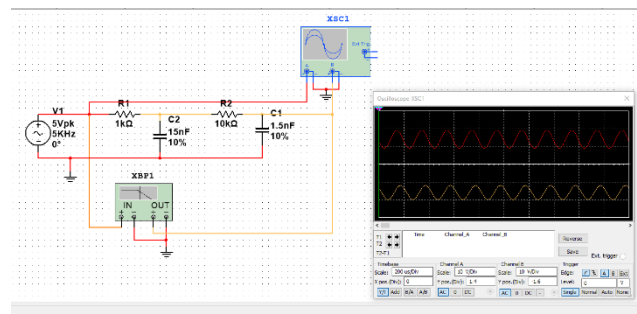

Figure 18: Second Order Low Pass Filter (Input =
Our original circuit has been revised by adding another resistor-capacitor combination (Figure 18). However, adding more capacitors affects our corner frequency. From the following formula,  $f_c$  = the new corner frequency:
- Output of RC filter shown in yellow trace (Figure 18).